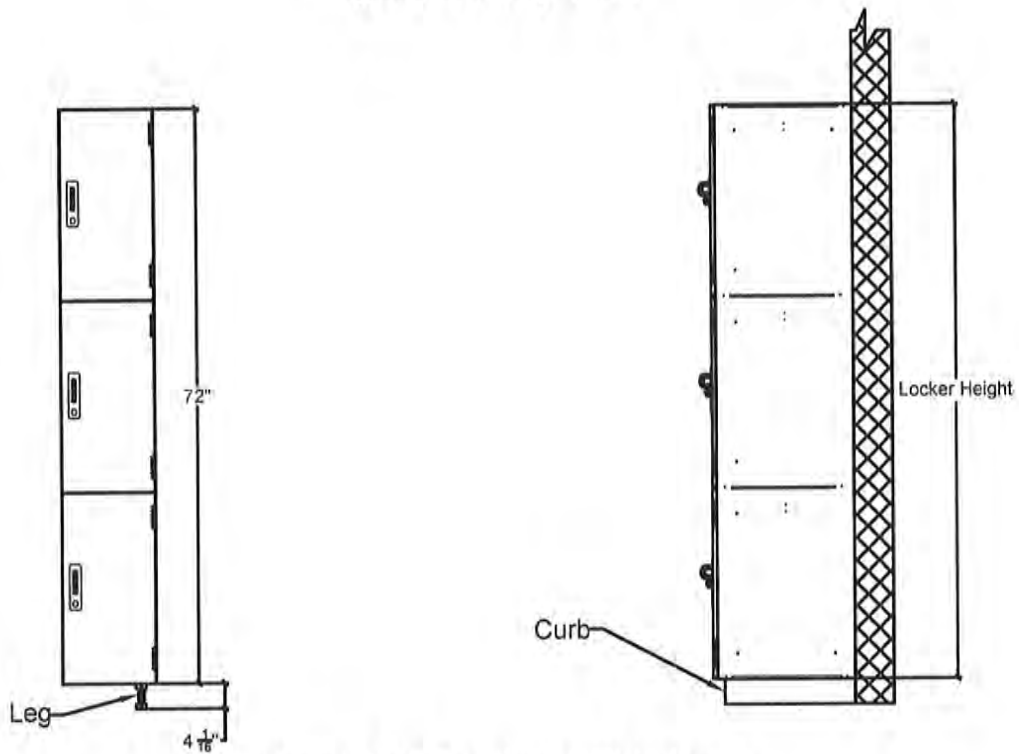

Figure 3.2 Front and Side View
- 3.3 Using the front view of the locker layout sheet, locate the height of the locker, see Figure 3.2. If you are installing the lockers on a concrete curb then mark this dimension at the highest point of the concrete curb. If you are installing the lockers on adjustable legs then add $4 \frac{1}{16}$ inches to the dimension and mark on wall.